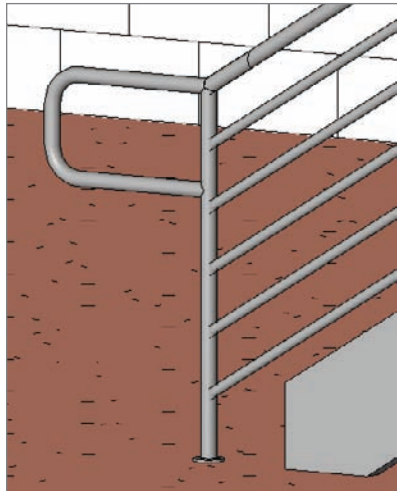

FIGURE 10.20 Check out the railing in 3D to ensure proper alignment.
7. Go to a 3D view to make sure the railings align (see Figure 10.20).